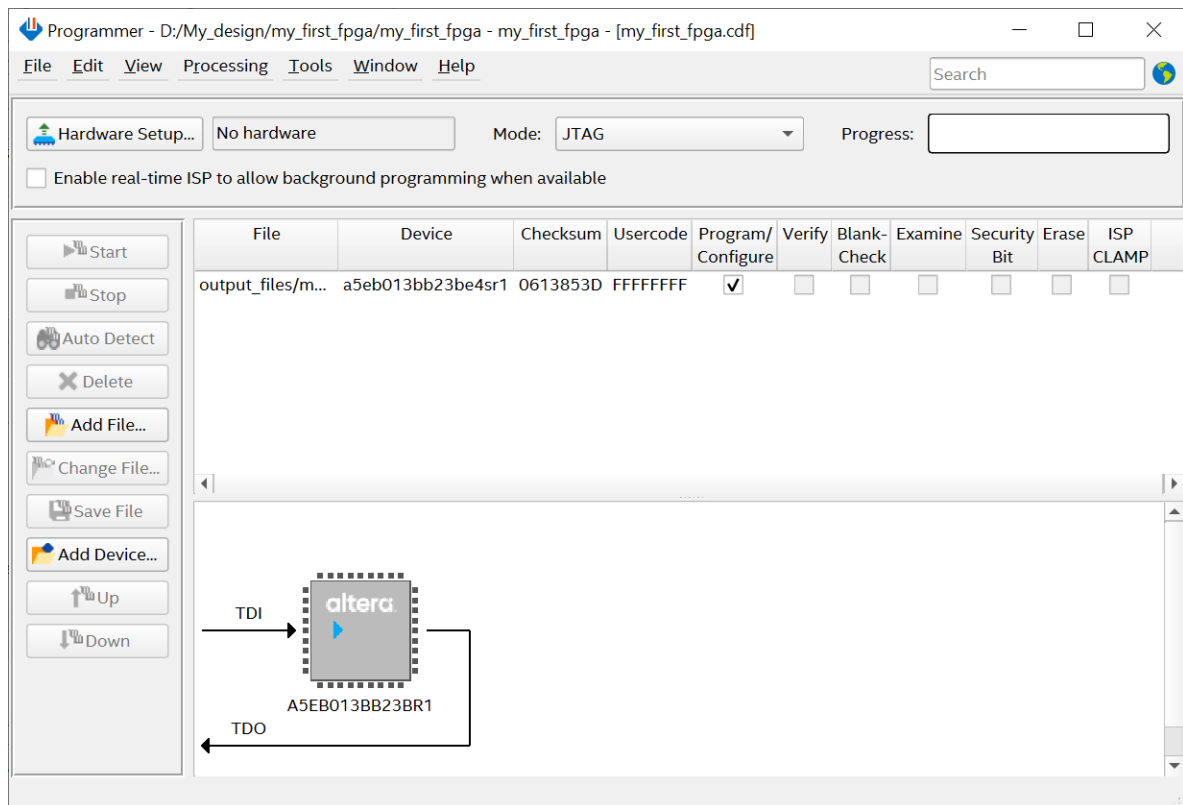

Figure 4-4 Quartus Programmer window
2. Open the Quartus Prime software and select **Tools --> Programmer**. The Programmer window will appear as shown in **Figure 4-4**.